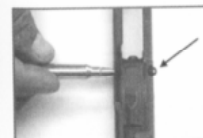
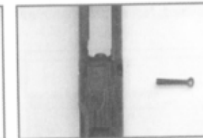

Fig. 33
Fig. 34
8. Depress the firing pin retaining pin from right to left (Fig. 33). Remove firing pin retaining pin from the bolt (Fig. 34).